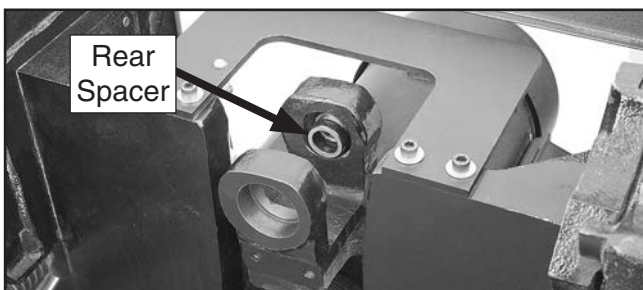

Figure 134. Location of rear spacer.
15. Remove the rear spacer from the bearing housing (see **Figure 134**).